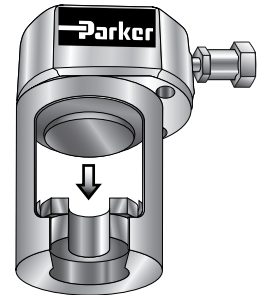

Figure 6
2. Insert "U-shaped" Nut die into the Nut Die Adapter of the Hydraulic Ram as shown in Figure 6.